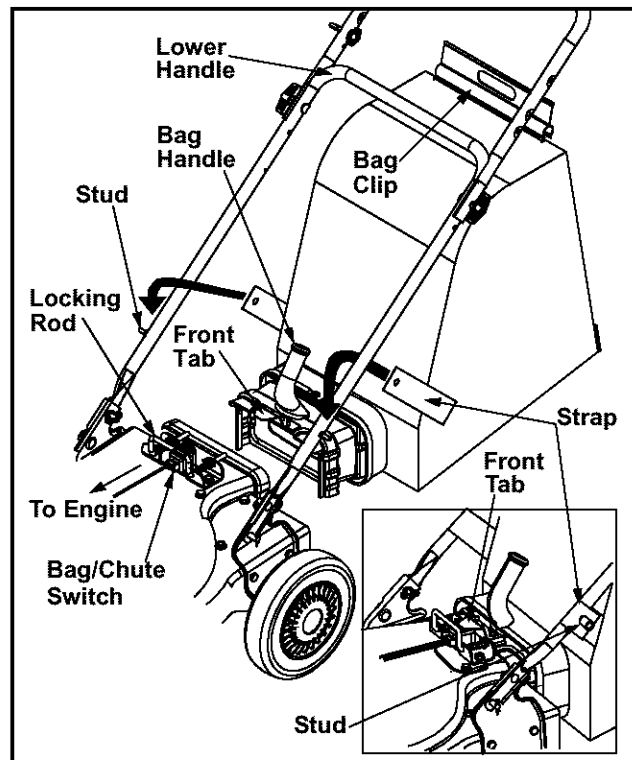

Figure 5
1. Grasp bag handle with one hand and pull locking rod with other hand toward engine, while slipping bag **over rim** of discharge opening. See Figure 5.
3. Remove bag from over the rim of the discharge opening. See Figure 5.
Lock Rod- Lubricate the lock rod and compression springs which attach to the mounting bracket. Refer to Figure 5.